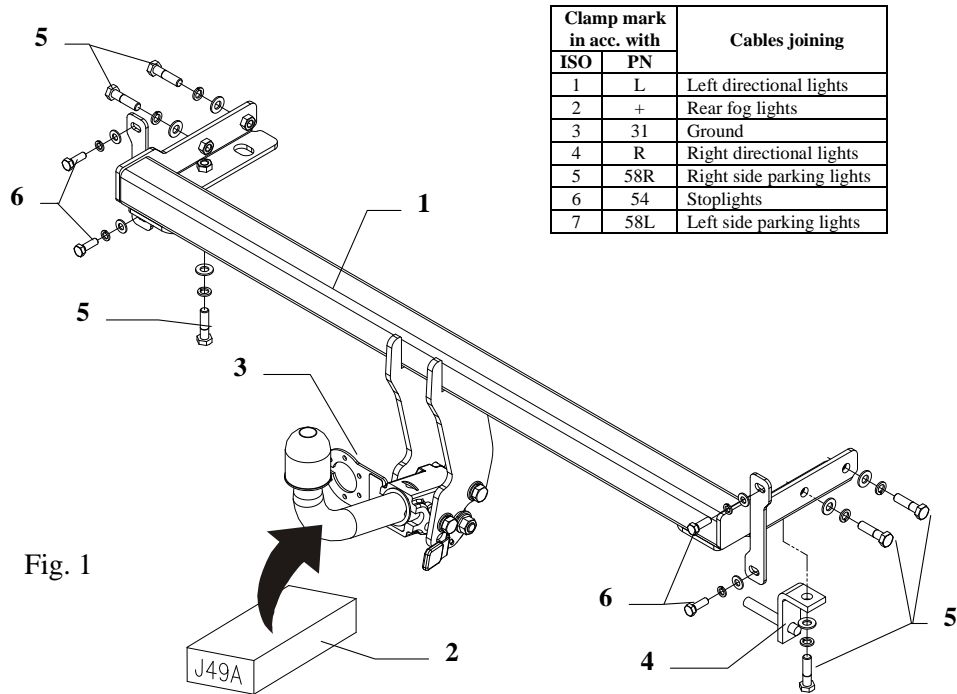

Fig. 1
4. Slip main bar of towbar (pos. 1) to chassis members in this way, so holes in towbar tally with original holes in chassis members and fix all using bolts M10x40mm (pos. 5), use plain and spring washers. On the right side place muffler handle (pos. 4), see fig. 1.